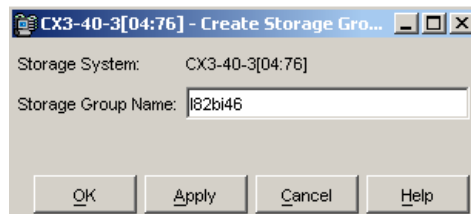

Figure 8-31 Create Storage Group window
- From the Enterprise Storage menu, right-click the CX3-40-3[04:76][CX700] device. Next, click **Create Storage Group**. You will see a window similar to Figure 8-31.